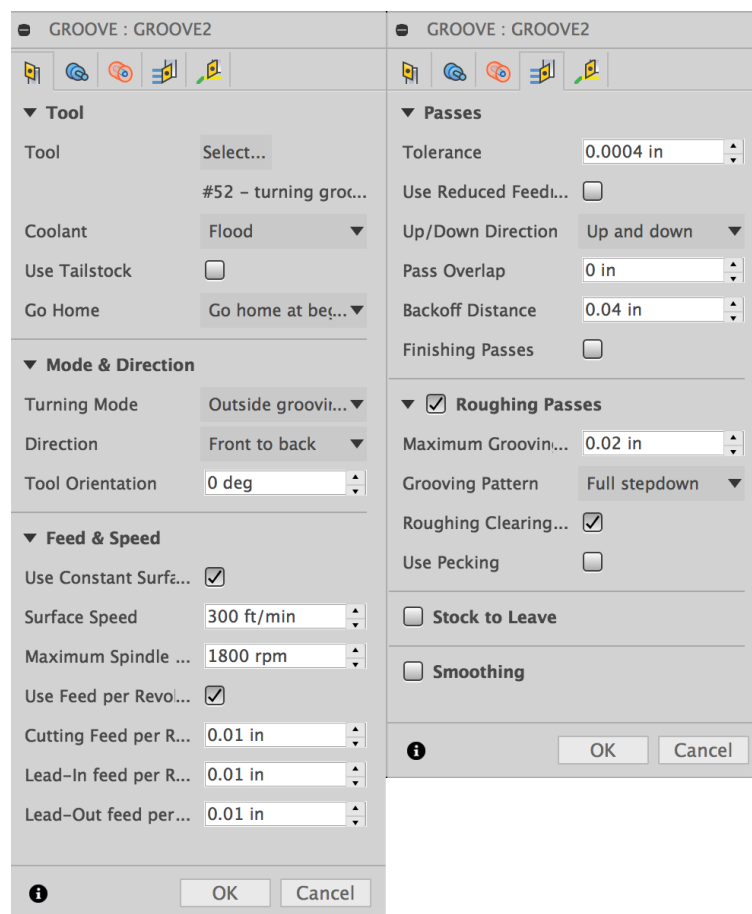

FIGURE 1.27: GROOVING OPERATION SETTINGS.
- Match the settings for the **Tool** and **Passes** tabs to Figure 1.27.